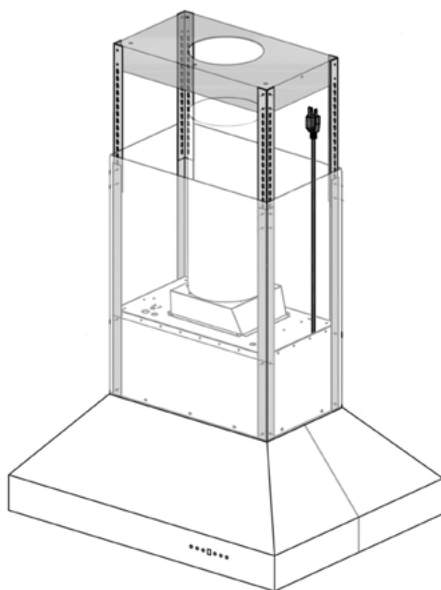

Figure 7
- Have at least one helper lift and hold the range hood and chimney up to where it will hang above the range top. Then, complete your ducting and power cord connections. The hood comes with a grounded 3-prong plug that must be plugged into a dedicated 15-amp circuit installed in the ceiling. *Figure 7*
- Run the electrical cord up the chimney, outside of the ducting, and plug into the outlet; then, secure the ducting to your home's ductwork. *Figure 7*